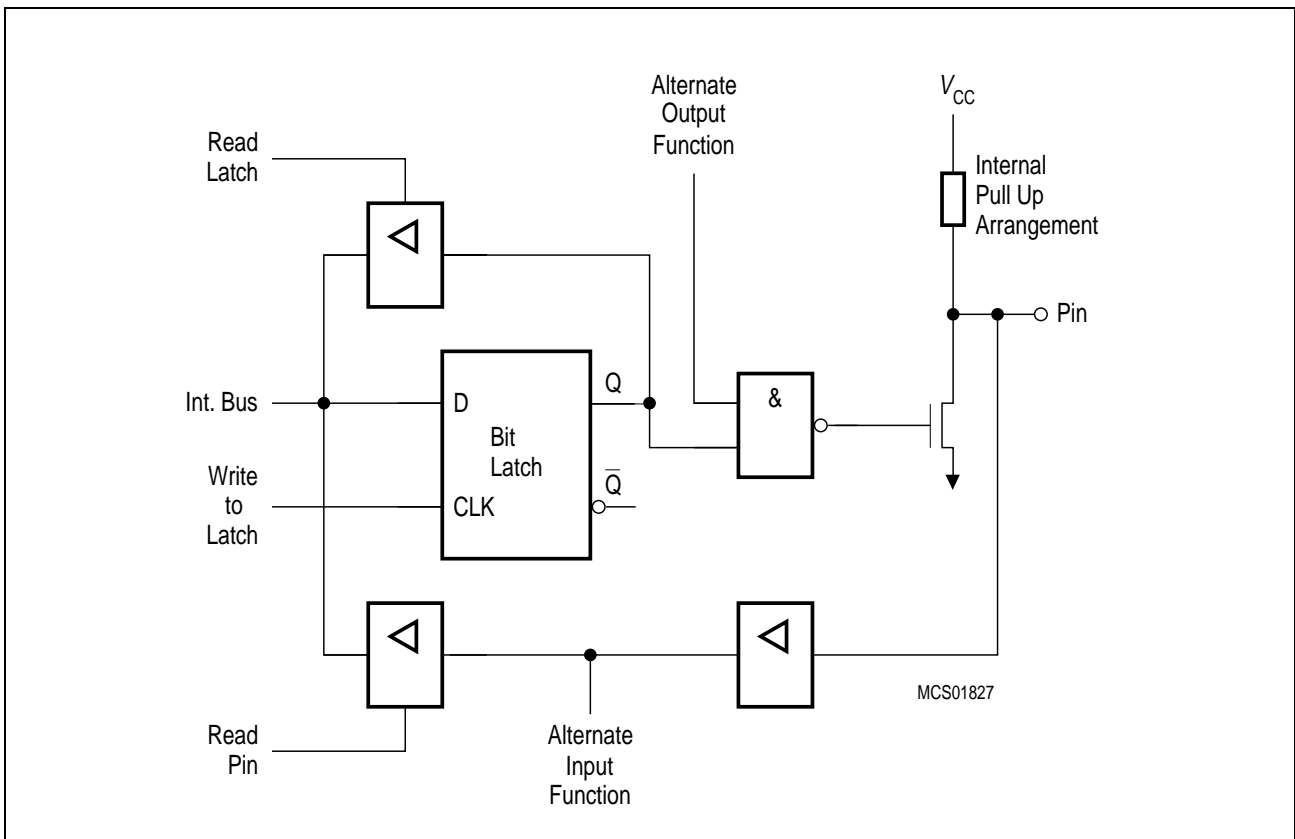

Figure 6-17a
Figure 6-17a shows a functional diagram of a port latch with alternate function. To pass the alternate function to the output pin and vice versa, however, the gate between the latch and driver circuit must be open. Thus, to use the alternate input or output functions, the corresponding bit latch in the port SFR has to contain a one (1); otherwise the pulldown FET is on and the port pin is stuck at 0. After reset all port latches contain ones (1).